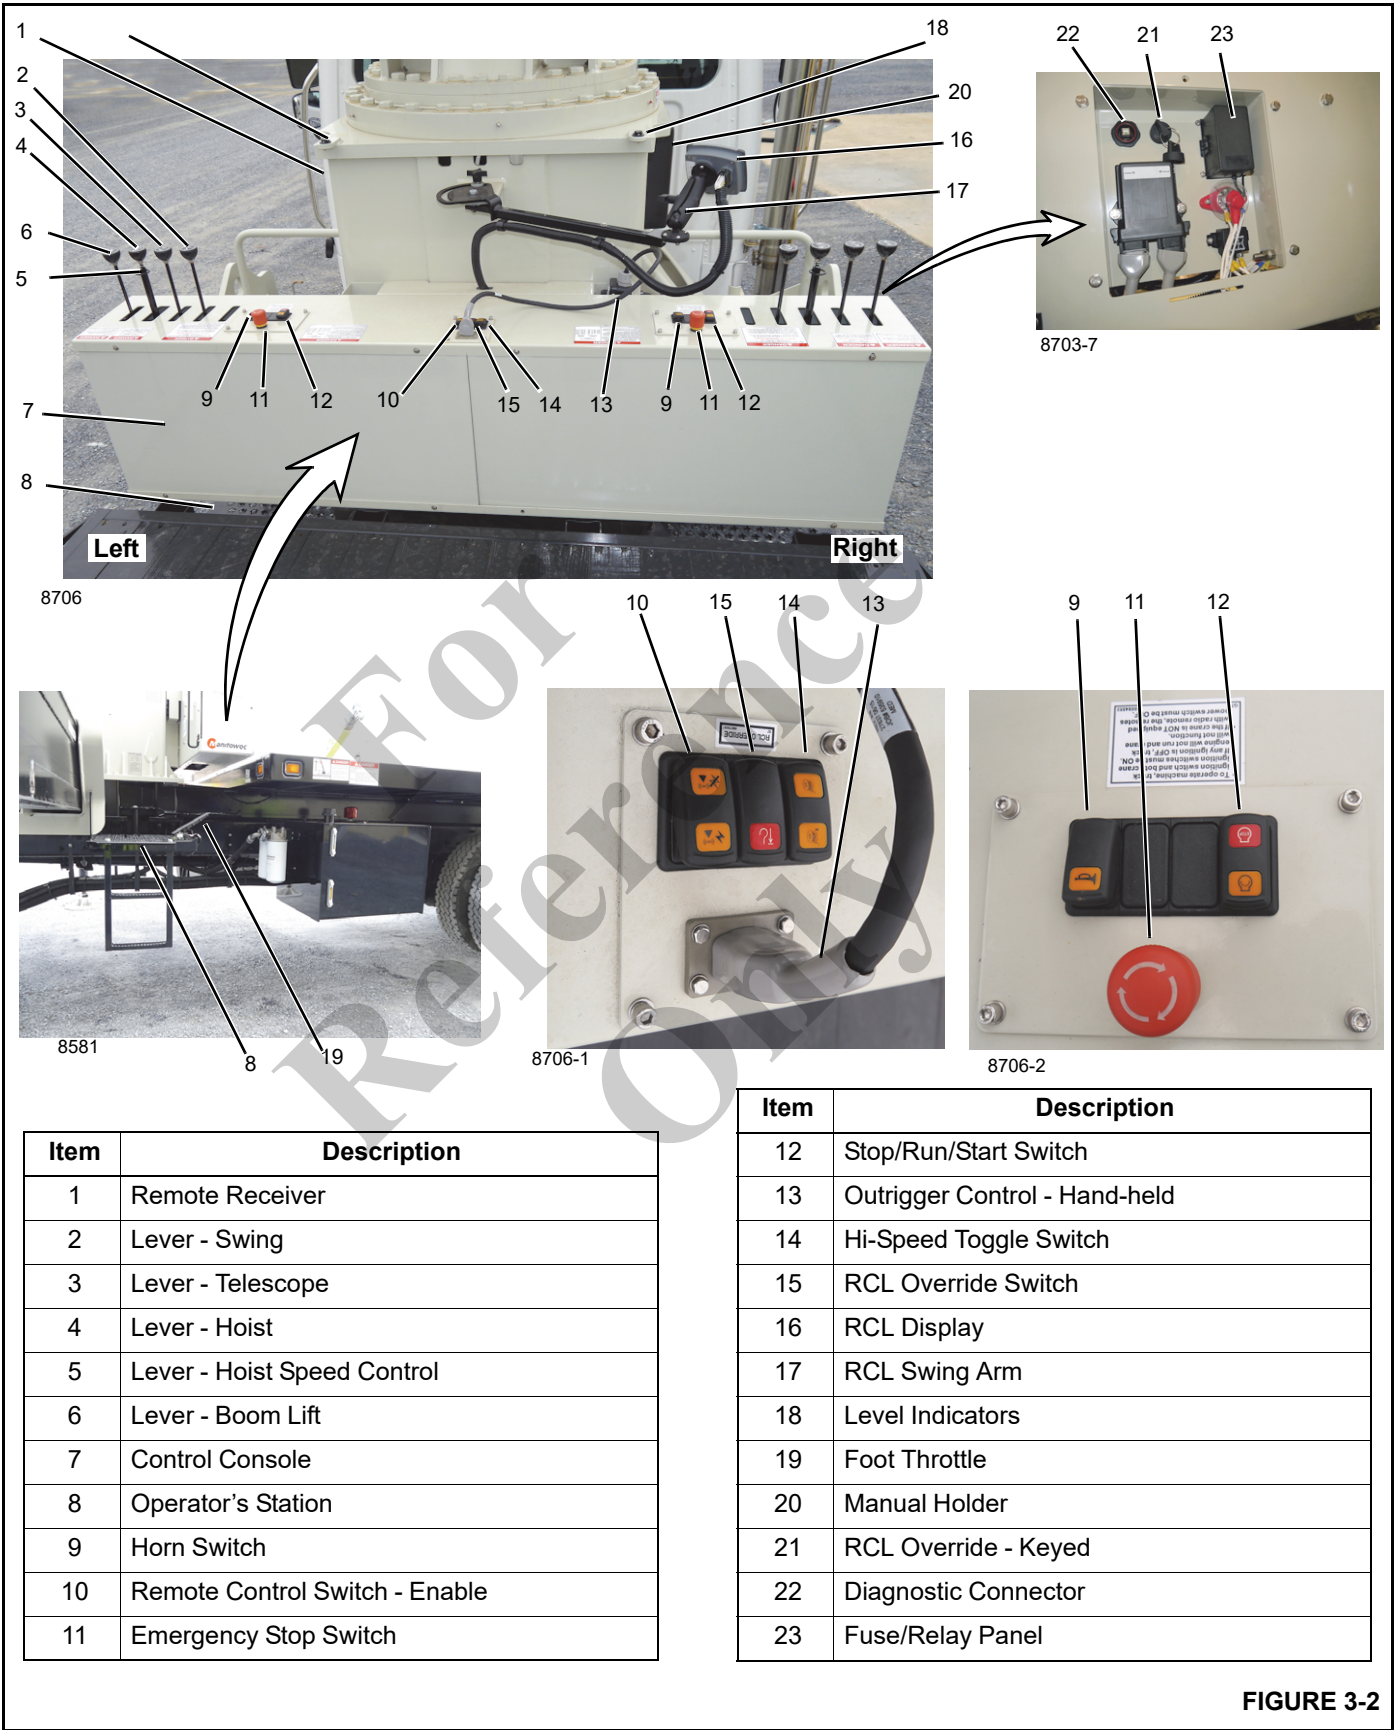

FIGURE 3-2
The crane has two Level Indicators (18) on either side of the turntable turret that is used to level the crane with the outriggers (Figure 3-2). Adjust the outrigger jacks until the bubble is in the center of the Level Indicator.
See Figure 3-2 for item number identification.